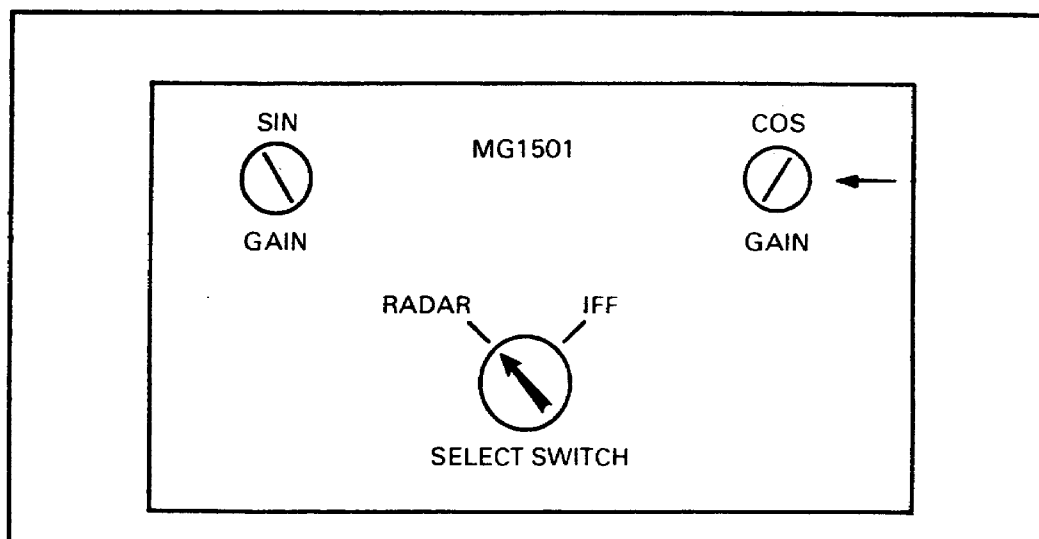

Figure 19. Adjustment of cosine gain control on MG-1501.
l. Have your assistant rotate the azimuth antenna until you have a maximum voltage indication on the multimeter. Adjust the cos gain control on the radar sine-cosine converter MG-1501 for a ± 36 volts DC. (See Figure 19.) Record reading _____.